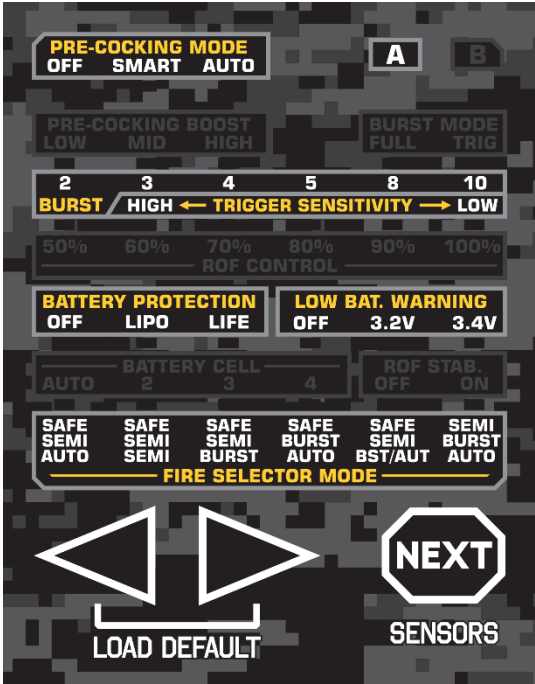

Fig. 2
- **‘A’ display** – includes functions such as: PRE-COCKING MODE, BURST, TRIGGER SENSITIVITY, BATTERY PROTECTION, LOW BATTERY WARNING and FIRE SELECTOR MODE (Fig.2),
- When the icon **A** is ON, the '**A**' display is activated. Check settings only on the black display of the TPC (Fig.2).